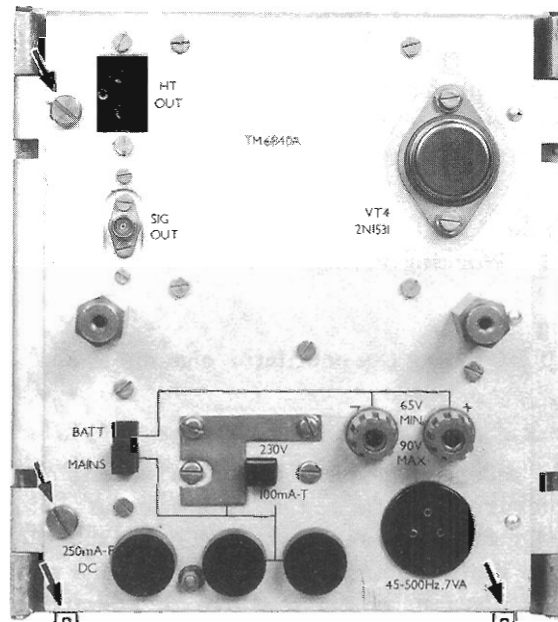

Fig. 1 Opening the oscillator chassis.
7. The chassis consists of the front panel and three other sections hinged to it. The four sections are normally arranged in the form of a rectangle when viewed from above, and are held in this position by screws. The four sections can be hinged open as follows (Fig. 1) :-